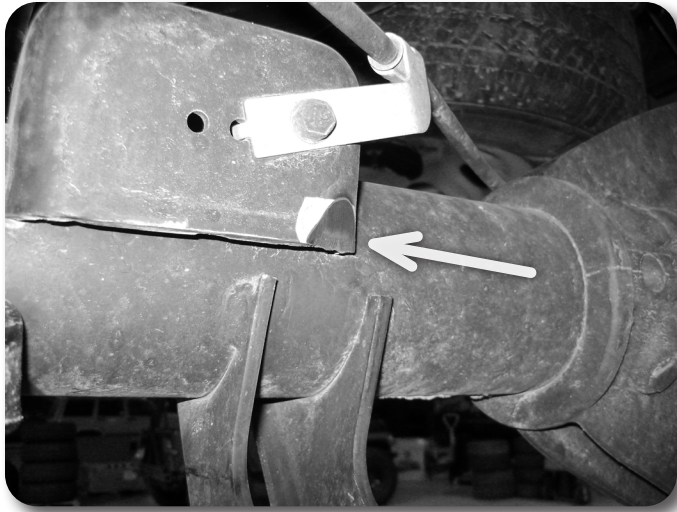

Figure 56
15. The passenger's side bump stop bracket on the axle must be trimmed slightly to add clearance for the new larger rear shocks. Grind the inside front corner to gain approximately 1/4" of clearance. **Figure 56** Paint bare metal to prevent rust.